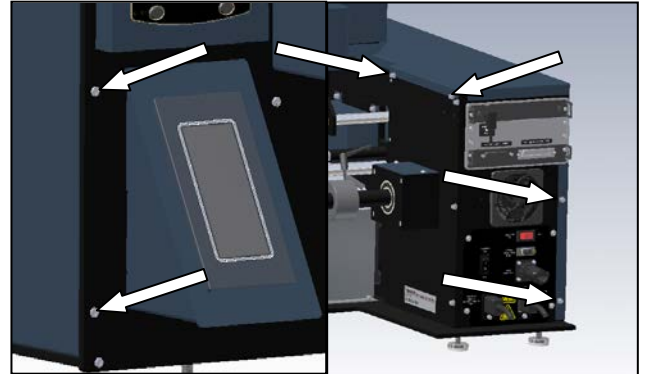

Figure 3-107. Frame Cover Screws
1. Remove the six screws holding the Frame Cover, set screws and Frame Cover aside (Figure 3-107).